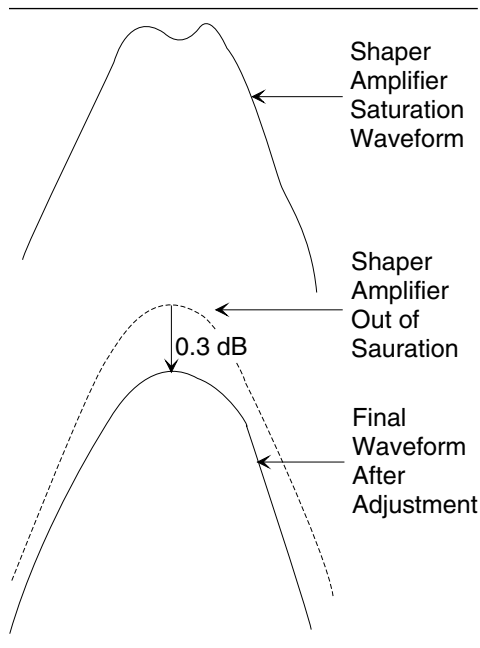

Figure 4-4. *Limiter DAC Adjustment Waveforms*
- c. Observe the displayed waveform to determine whether the Shaper Amplifier is being driven to saturation. This is indicated by a dip in the top of the triangle waveform (Figure 4-4).